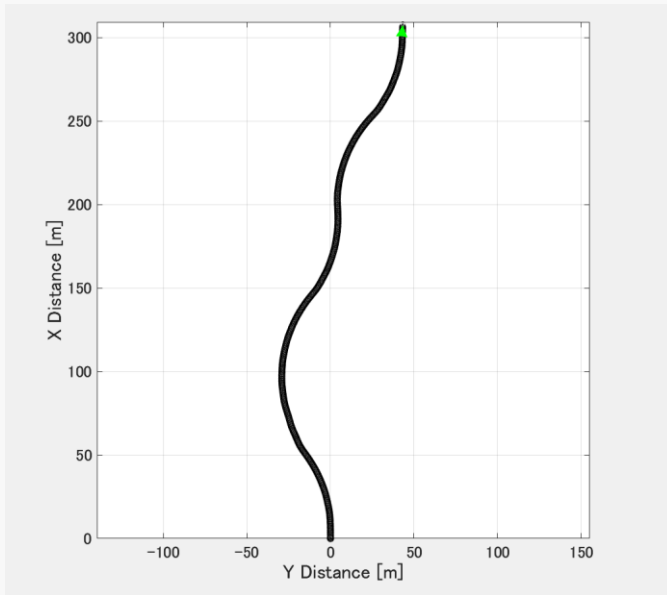
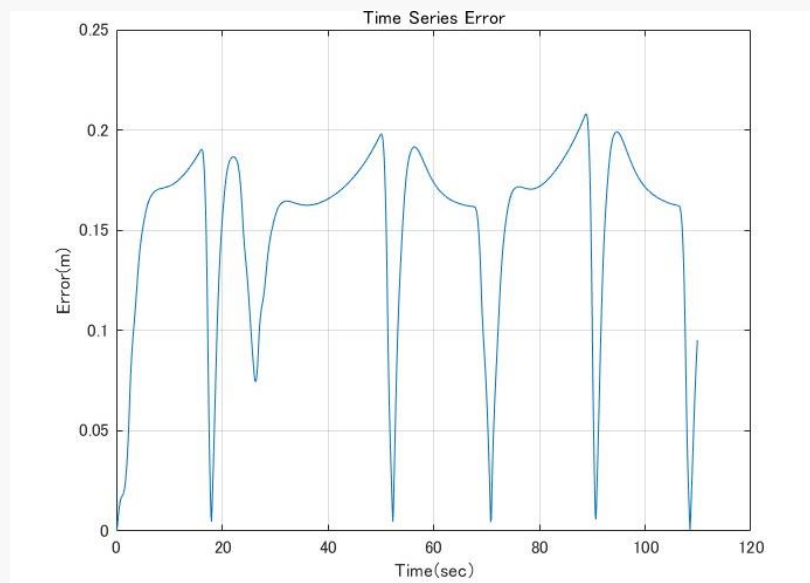
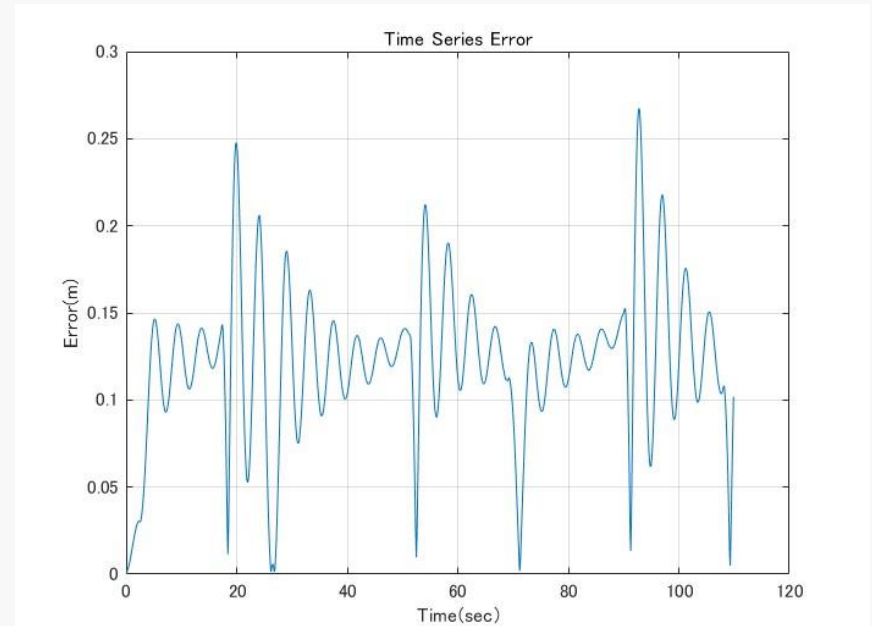

Fig. 4: Reference trajectory
Fig. 5: MPC tracking error using a bicycle kinematics model.
Fig. 6: MPC tracking error using a model with system identification from driving data.
- Fig. 5 and Fig. 6 show the tracking error when MPC is performed to follow a reference trajectory as shown in Fig. 4 using a bicycle kinematics model and a model identified by the system based on driving data.